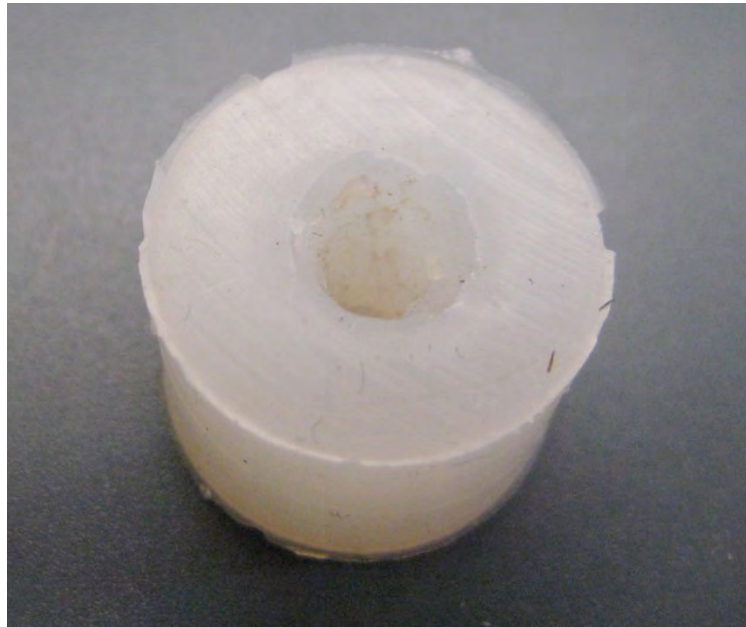

Figure 14: Partially damaged Morrison seal end.
19. After repeated re-termination, the Morrison seal may show signs of damage (i.e. chunks taken out near either end of the hole and is caused from the cable being repeatedly inserted). This damage is shown in Figure 14. This damage will not affect the seal if the hole shows no damage along the middle surface of the hole. This is an advantage of the Morrison seal design. The design involves a very wide sealing surface compared to an o-ring. However, if the seal is damaged throughout the entire hole, replace the Morrison seal.